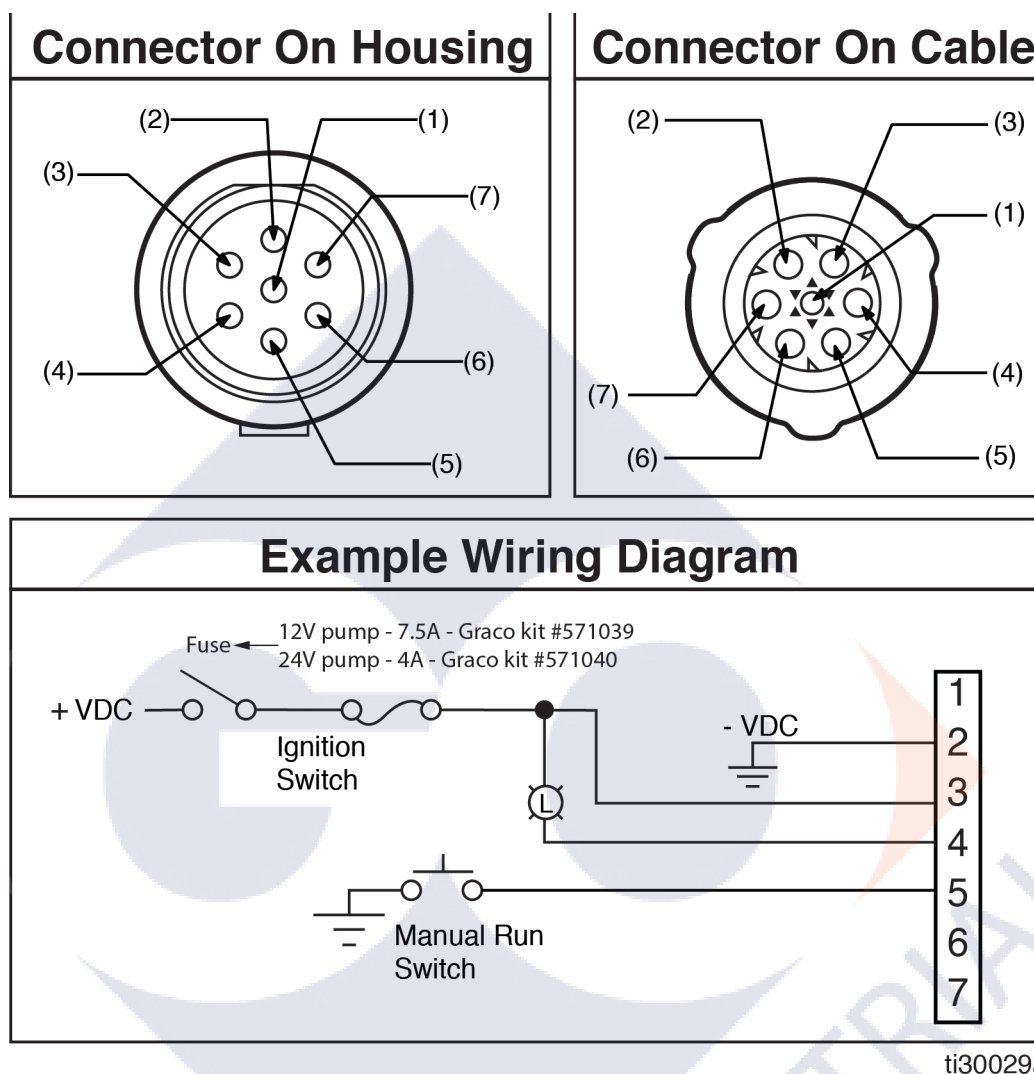

FIG. 5
- See Pin Layout shown in FIG. 5 for proper location in the connector.
**Pin and Related Wire Color (FIG. 5, page 15)**